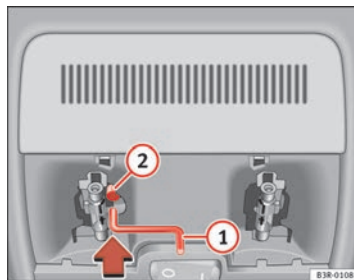

Fig. 83 Detail of headliner: Crank handle for manual operations
- Insert the crank handle ① all the way into the hexagonal socket
② ⇒ page 113, fig. 83.